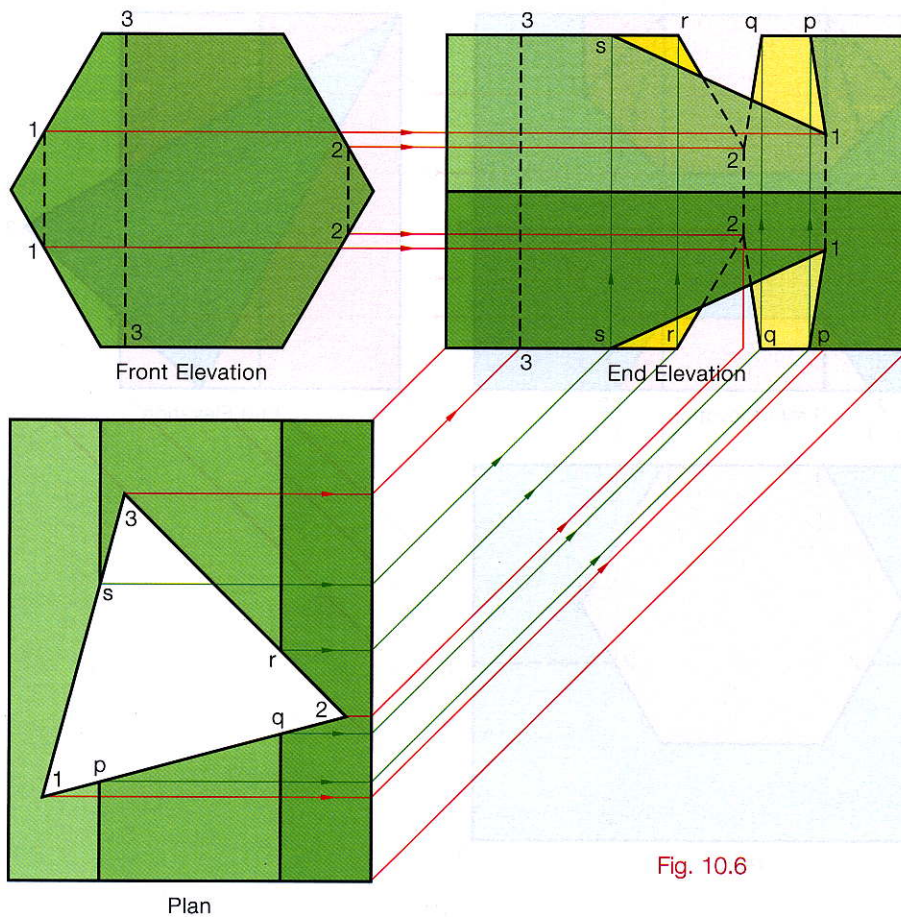

Fig. 10.6
- (1) Draw the plan and elevation as given. Both of these views are complete.
- (2) By projecting points from both of these views onto the end view we can build it up.
- (3) Note the bend points p, q, r and s where one of the cutting planes crosses two or more planes.
- (4) When all the points are found they are joined up in order. The order in which they are joined is best seen in the plan. 1 → p → q → 2 → r → 3 → s → 1, Fig. 10.6.